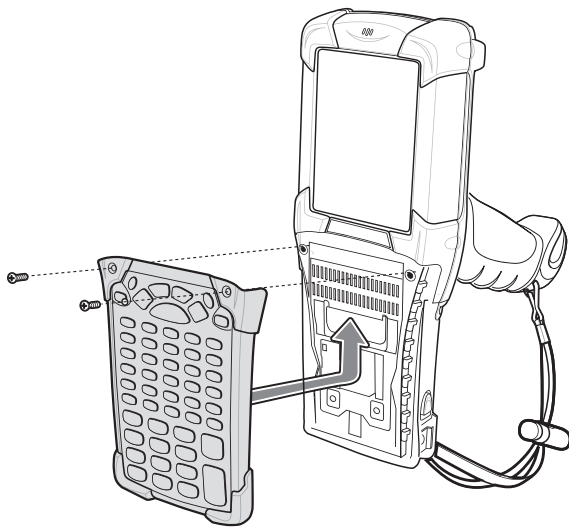

Figure 2-2 *Installing the Keypad*
6. Replace the keypad and re-attach using the two screws (see Figure 2-2 on page 2-6).